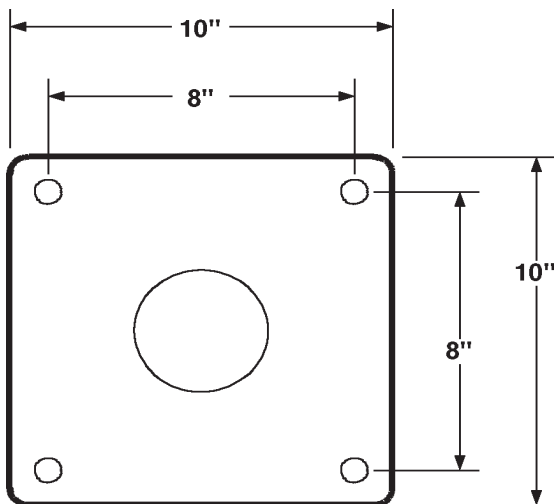

Figure C-1. MOUNTING DIMENSIONS
Using the holes in the base as a pattern, mark the location of the four mounting holes as well as the inside electrical access hole. Drill 11/16" diameter holes at these five (5) locations. See Figure C-1.